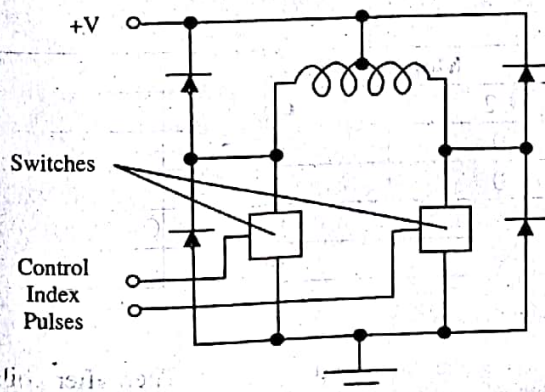

Figure 2.13
1) **Unipolar Driver:** Winding has three leads each at the end and one in the middle. Half of the winding only is used in motor operation at any instant of time. To change the direction of rotation, end leads are chosen and the current flows in the same direction. Unipolar winding driver circuit is simple and shown in figure 2.13.